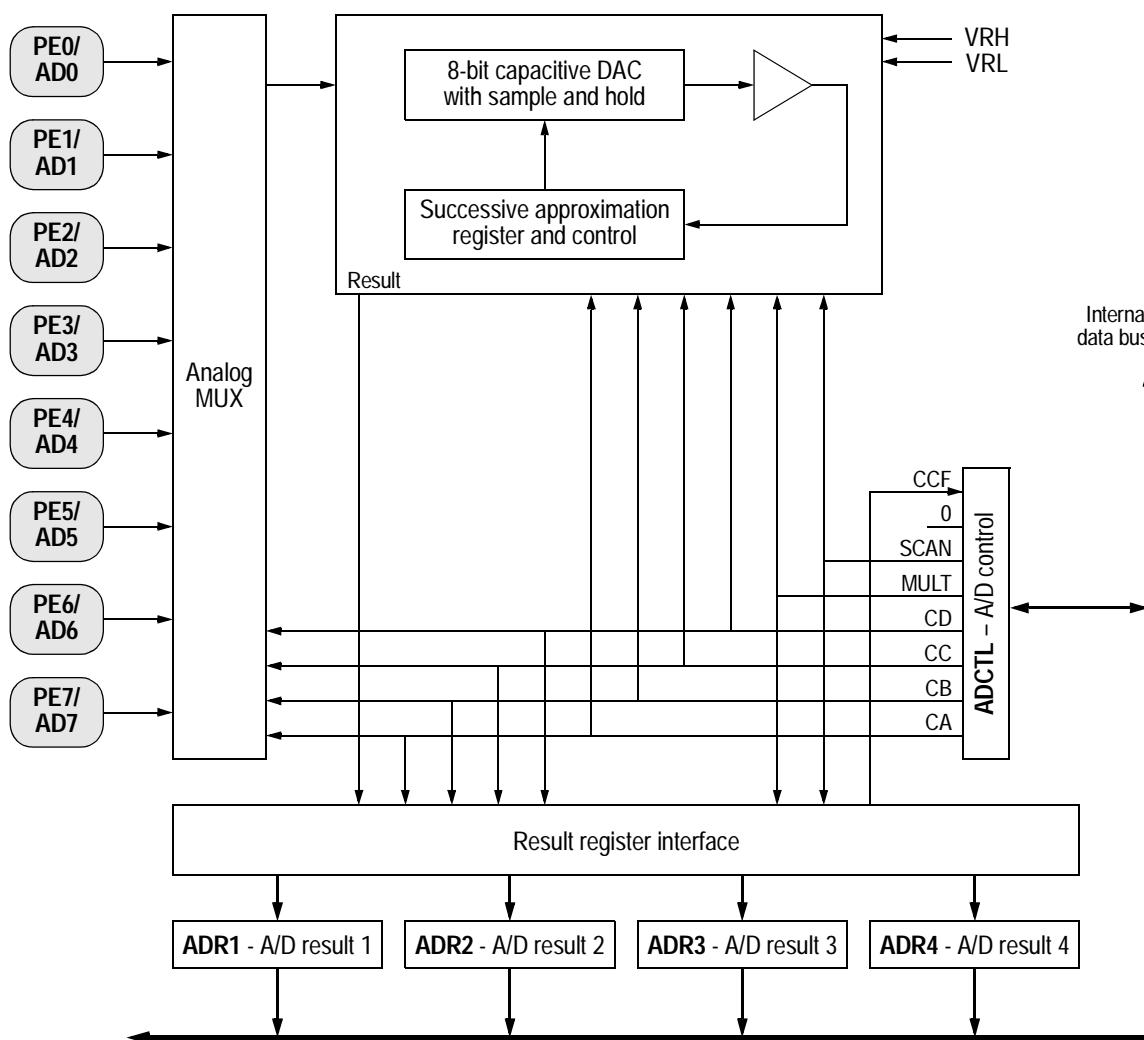

Figure 9-1. A/D converter block diagram
The A/D system is an 8-channel, 8-bit, multiplexed-input converter. The VDD AD and VSS AD pins are used to input supply voltage to the A/D converter. This allows the supply voltage to be bypassed independently. The converter does not require external sample and hold circuits because of the type of charge redistribution technique used. A/D converter timing can be synchronized to the system E clock, or to an internal resistor capacitor (RC) oscillator. The A/D converter system consists of four functional blocks: multiplexer, analog converter, digital control and result storage. Refer to **Figure 9-1**.